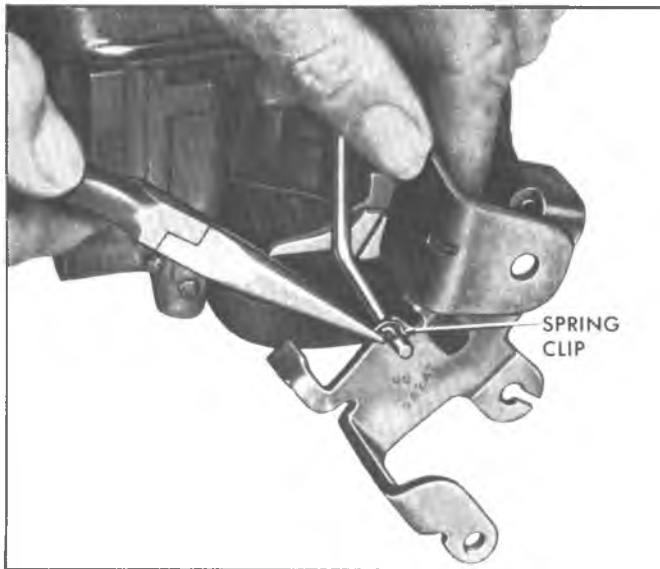

Fig. 2C—Removing Pump Rod Spring Clip
2. Disconnect lower end of pump rod from throttle lever by removing spring clip (Fig. 2C).